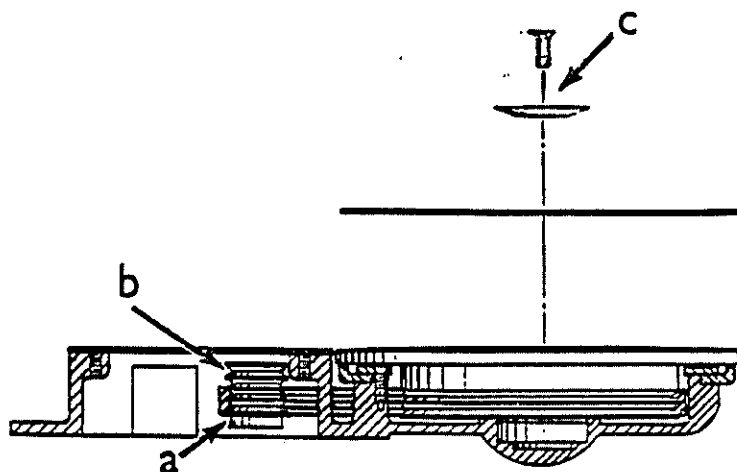

Figure 2
For 16529A: Position drive belt in set of grooves on the motor pulley as shown in figure 2-a.
For 16528A, 13706A, 13708A, and 13710A: Position drive belt in set of grooves on the motor pulley as shown in figure 2-b. **NOTE:** If your machine is a Super 5E or is not equipped with a four groove motor pulley, you must replace it with part number 66199A when installing extension 16529A.
4. Remove screw and abrasive retainer. Center abrasive on pad and secure with abrasive retainer and screw. See figure 2-c.